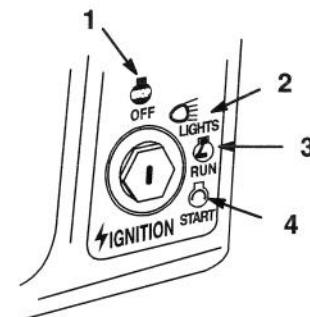

Figure 5
6. Turn the ignition key clockwise and hold it in the "START" position (Fig. 5). When the engine starts, release the key.
2. Turn the ignition key to "OFF" (Fig. 5).